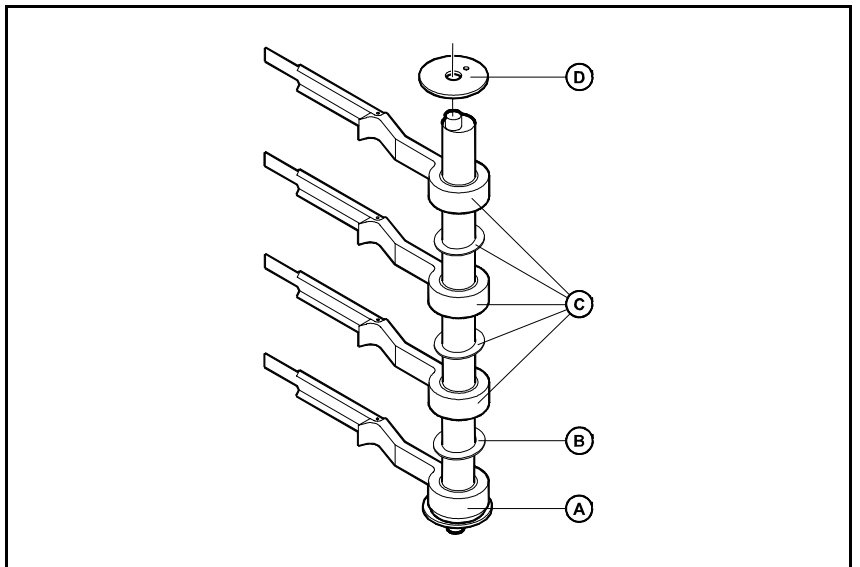

Figure 7. Reassembling feeder arms
15. From the Magazine Upgrade Kit, reassemble the drive side feeder arm (L-014-0107C, 'A' in Figure 7). Make sure that the feeder arm tip points towards the feeder wheel.
16. Put a washer on the drive side feeder arm (B).
17. From the Magazine Upgrade Kit, reassemble the 15 feeder arms (L-014-0106C) and put a washer between all feeders (C). No washer on the last feeder arm.